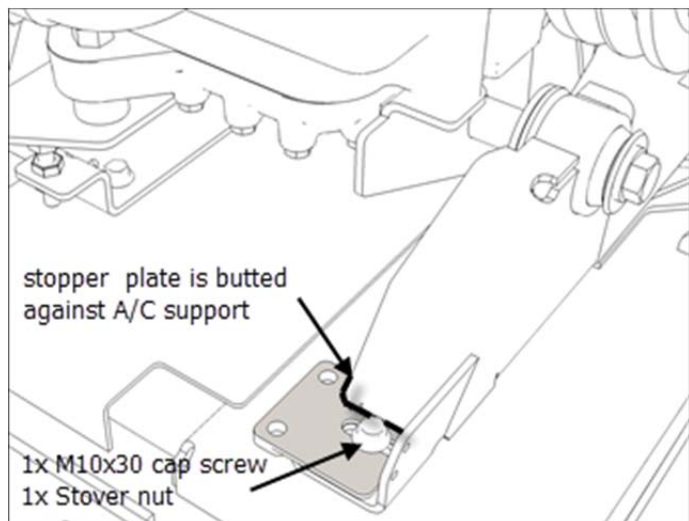

Figure 5
8. Install the stopper plate (#450075) butted against the A/C compressor support assembly and secure with one M10x30 cap screw (#5001741) and one M10 Stover nut (#5001727) (see Figure 5). Torque to **35 lb-ft**.